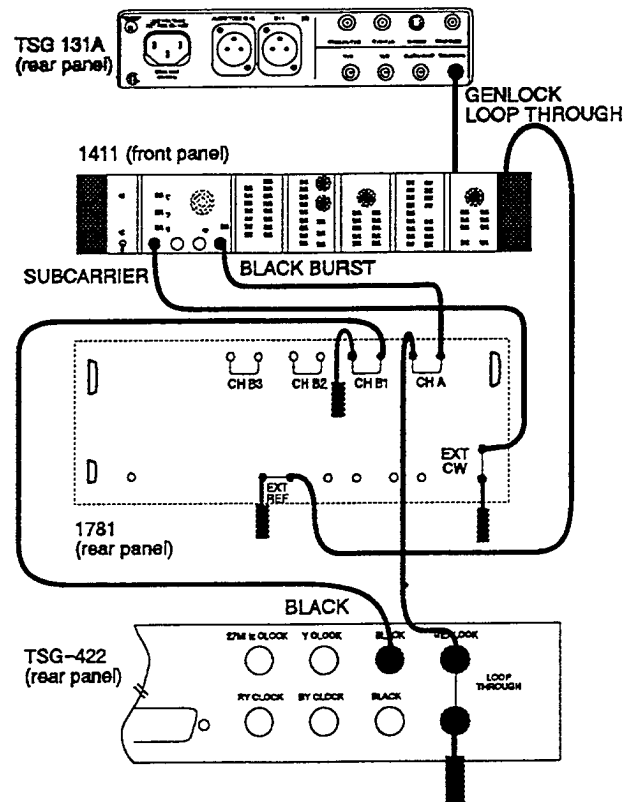

Fig. 5-8a. Setup to check the Color Framing. (PAL)
- a. Connect the equipment as shown in Fig. 5-8a.